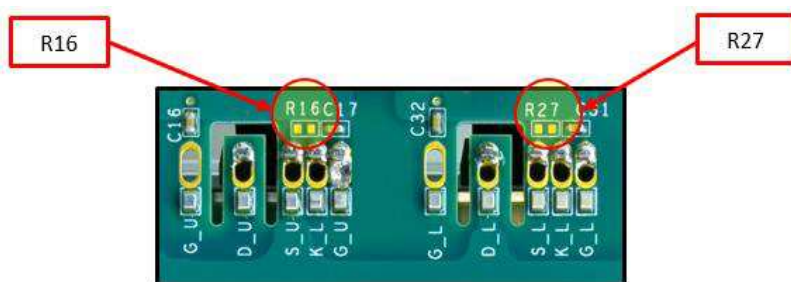

Figure 12: Location of resistors on the bottom side of PCB
The Buck-Boost Evaluation Kit comes with many test points (as shown in Figure 11 (a) and Figure 11(b)) to make it convenient for users to capture critical waveforms such as drain to source voltage (VDS), gate to source voltage (VGS), and drain current (ID). It is critical to take these measurements as close as possible to the device pins. On the bottom side of the evaluation kit's PCB board, there is a test loop placed right next to the device pins for both TO-247-3 or TO-247-4 footprints (as shown in Figure 12). The test loop makes it convenient for the users to attach the clip-on probes to the PCB board.